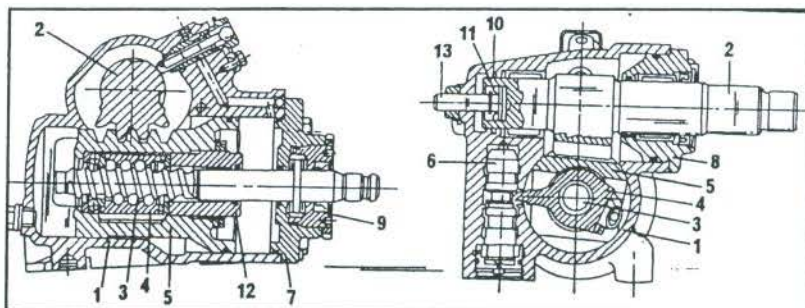

Fig. 6.5 – Sectional view of the power-assisted steering.
- The power-assisted steering can be overhauled, but the work must be left to a workshop. Fig. 6.5 shows a sectional view of the steering for reference.